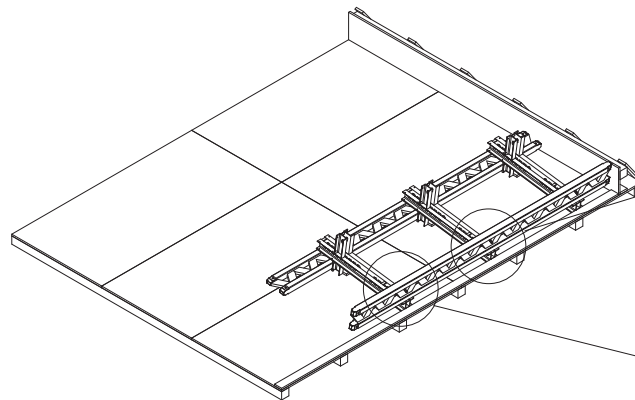

Abb. A2.03
3. Position edge beam against the steel waler and secure. (Fig. A2.03)